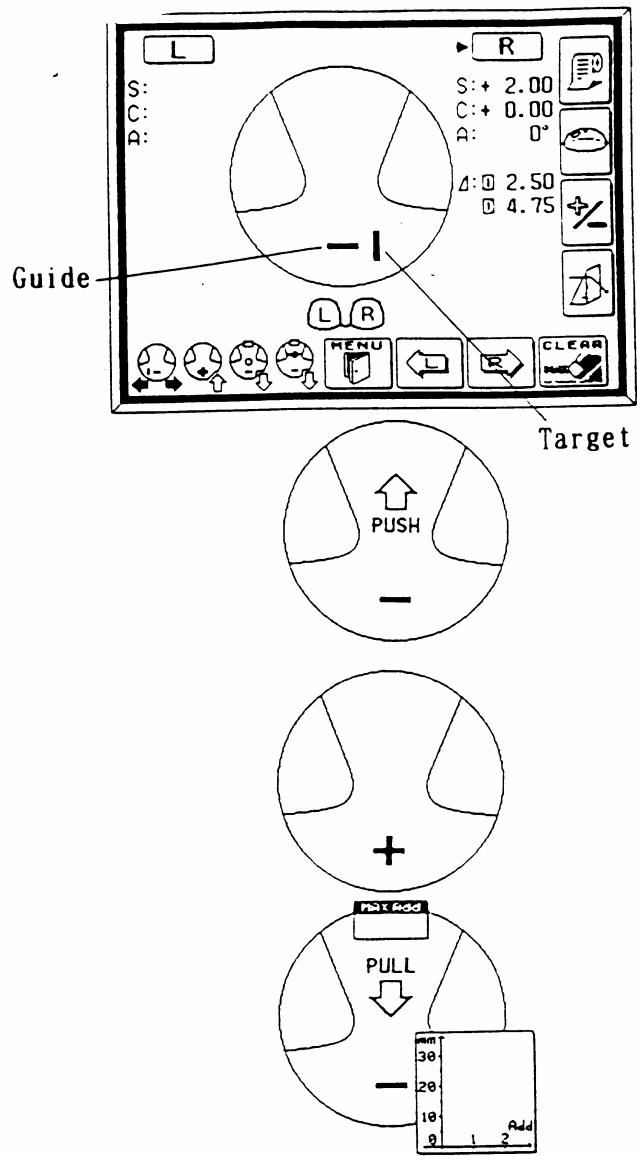

Figure 3-3. Measuring the lens
1. Press the PPL mode button (the second button on the right side of the display screen). Four lens graphics will appear on the bottom left side of the LED screen to indicate that you are now in the PPL mode (Figure 3-3).
4. Align the target (vertical line) by moving the lens sideways so that the target is brought to the middle of the guide (horizontal line) (Figure 3-3).
5. When the target is within an acceptable range, the “PUSH” sign with an up arrow will appear and the target line will disappear (Figure 3-3).
6. Push the lens forward slowly until the target changes to a plus sign (Figure 3-3).
7. When the distance value is stable, a small beep sounds and the “PULL” sign with a down arrow appears (see Figure 3-3).